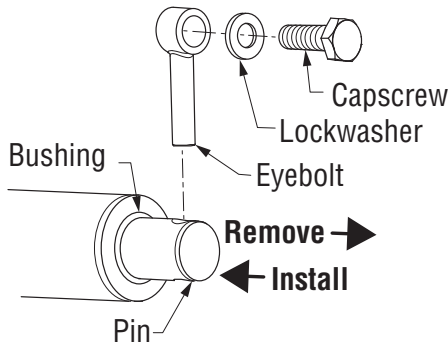

Figure 6-3, Pivot Pin Installation
3. Each pivot pin is retained with an eyebolt held in place with a capscrew and lockwasher. Carefully remove pins without passing the hole through the bushing. This is accomplished by removing and installing the pin as shown in Figure 6-3.